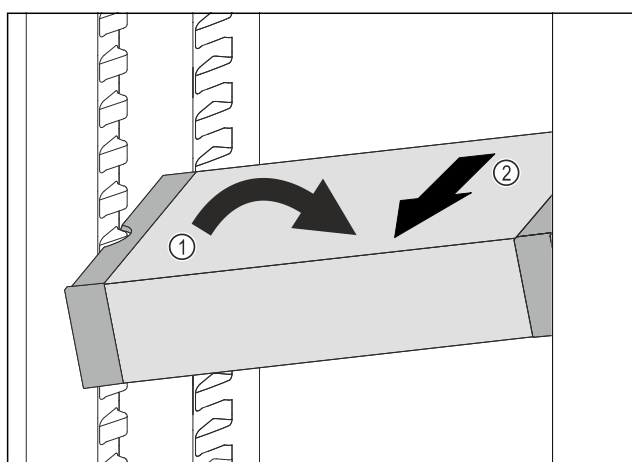

Fig. 95
- Set VarioSafe in refrigerator compartment at an angle. Fig. 95 (1)
- Take VarioSafe out to the front. Fig. 95 (2)